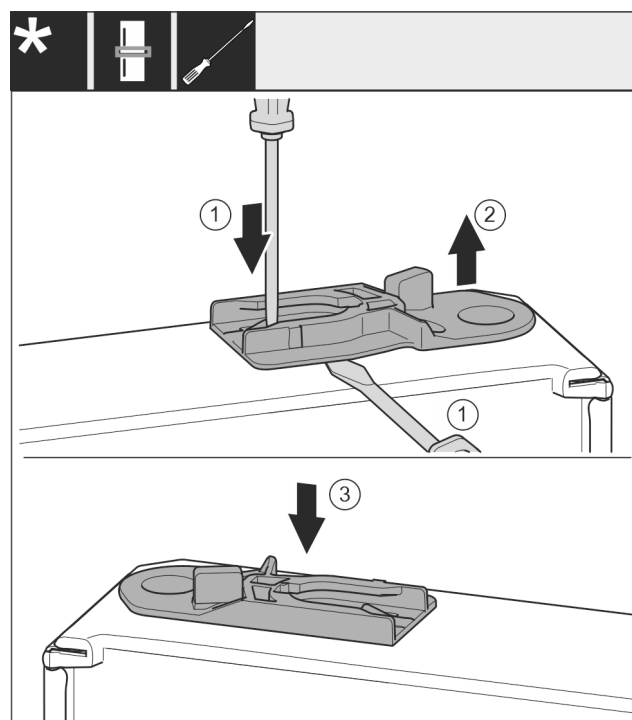

Fig. 39
- ▶ Pull out the guide bushing: Press the tab Fig. 39 (1) with the slotted screwdriver while running the slotted screwdriver under the guide bushing Fig. 39 (2) at the same time.
- ▶ Insert the guide bushing Fig. 39 (3) supplied in the scope of delivery on the other side of the housing.